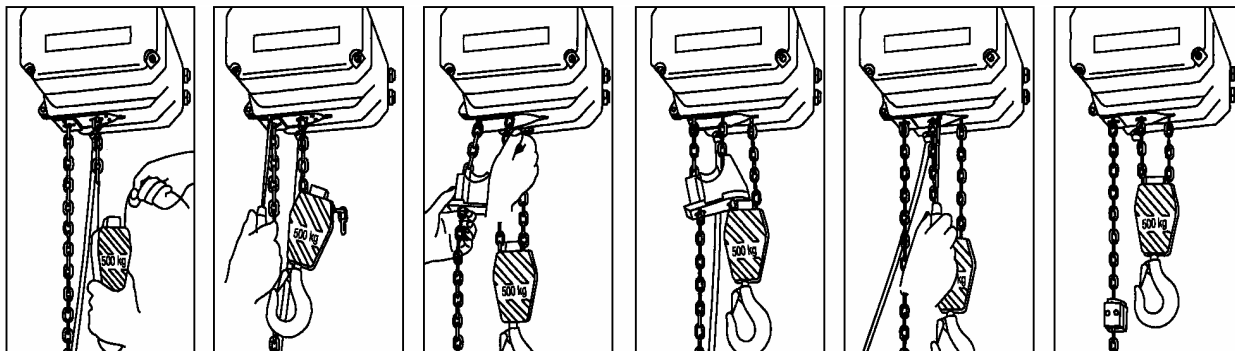

Figure 16 (step 2) Figure 17 (step 3) Figure 18 (step 4) Figure 19 Figure 20 (step 5) Figure 21 (step 6)
2. Pull the chain through the hook block using the pull-in wire (special tool) (Figure 16).
Assembly: The hook block can be mounted on the chain hoist, without being before dismantled. For attaching of the hook block the chain has to be pulled through the hook block with a draw-in wire (special tool), as described in 5.1.2.4 (see also Figure 16).